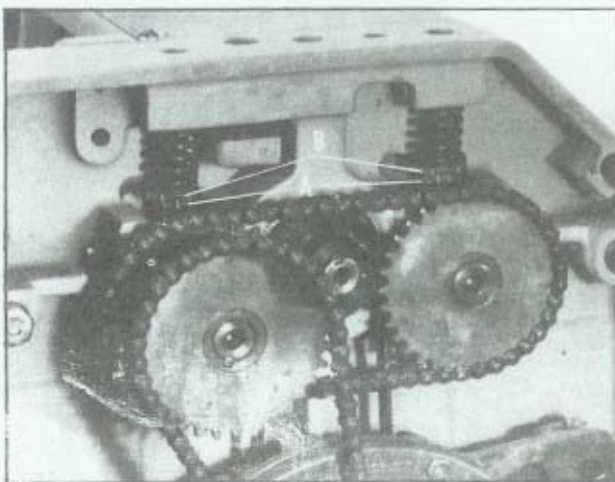

Fig. 17.
3. Loosen jam nut (A) Fig. 17, and rotate spring retainer (B) to increase or decrease spring tension.